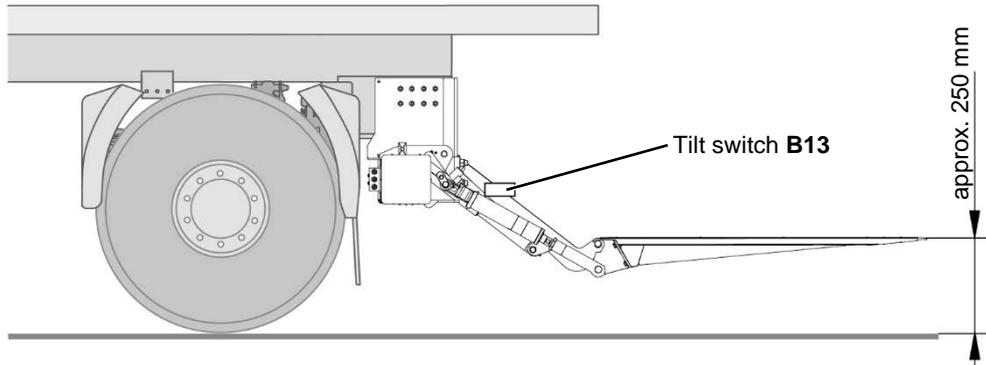

Figure 45: Tilt switch **B13** (1)
- ▶ Move the platform to the position horizontally approx. 250 mm above the ground as presented in Figure 45, page 67.